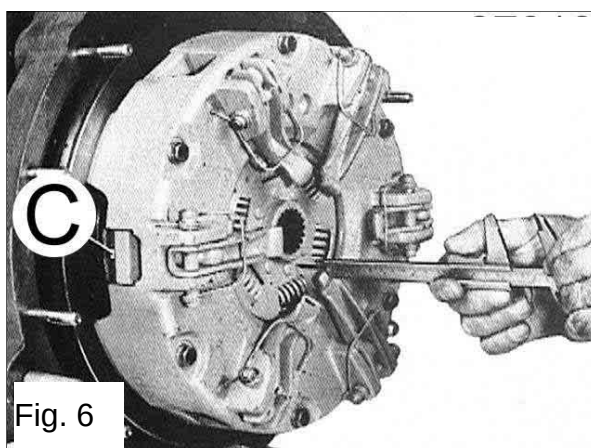

Fig. 6
- loosen the lock nuts and turn the nuts **C** (fig. 6) to obtain the prescribed distance;